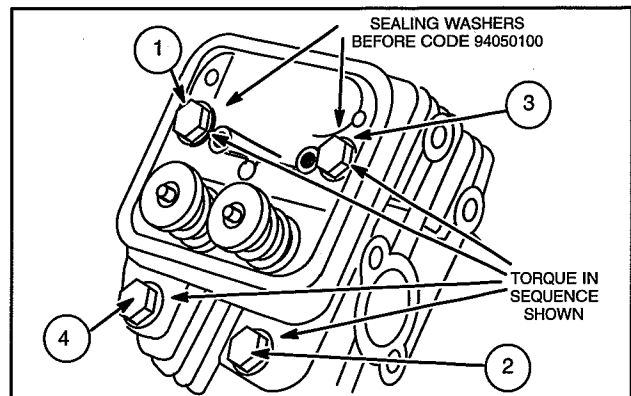

Fig. 22 – Install Cylinder Head
1. Install cylinder head with new gasket, Fig. 22.